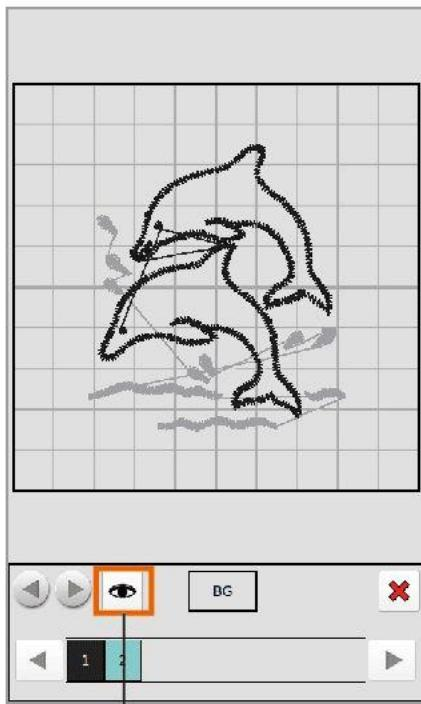
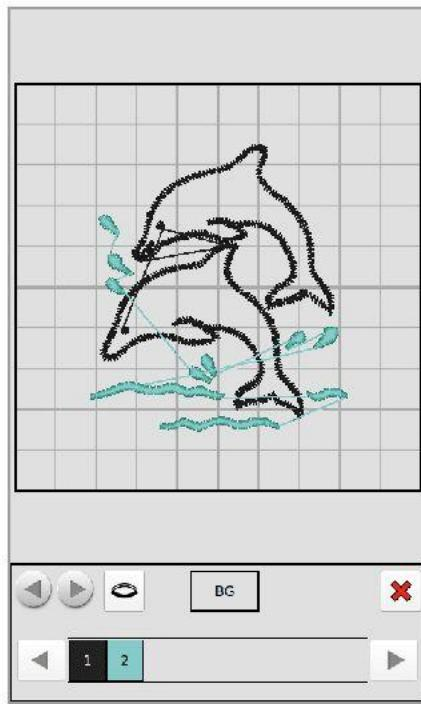

图5 Figure 5
图6 Figure 6
① 点击h编辑颜色，进入图5界面，点击查看键，进入图6界面
Click h indicating color editing to enter the interface in Figure 5,
Click checkup key to enter the interface in Figure 6.